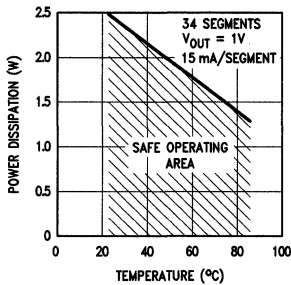
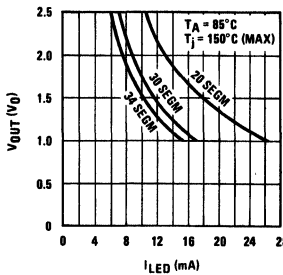

FIGURE 5
FIGURE 6
- Note 3:** See Figures 5, 6, and 7 for Recommended Operating Conditions and limits. Absolute maximum for each output should be limited to 40 mA.
- Note 4:** The V_{OUT} voltage should be regulated by the user. See Figures 6 and 7 for allowable V_{OUT} vs I_{OUT} operation.
The above equation was used to plot *Figure 5*, *Figure 6* and *Figure 7*.